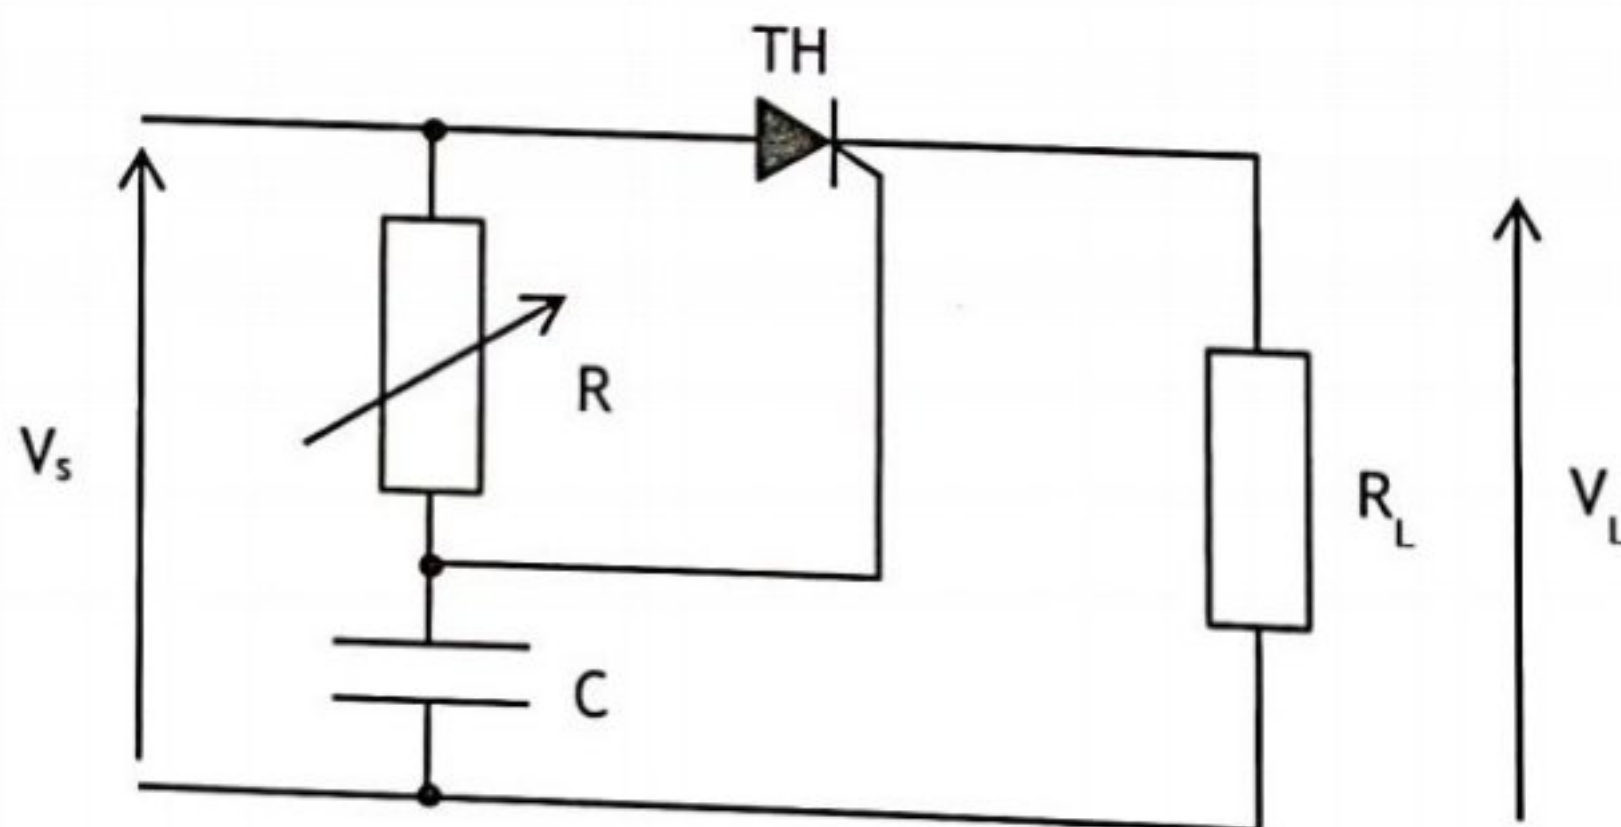

Fig Q9
- (ii) state how the output frequency and voltage are controlled. (2)
9. (a) Sketch and label the forward and reverse current/voltage characteristics for a thyristor showing the effect of increasing gate current. (3)
- (i) holding current I_H ; (1)
- (ii) latching current I_L ; (1)
- (iii) forward breakover voltage V_{BO} ; (1)
- (iv) reverse breakdown voltage V_{BR} . (1)
- (i) turn on; (2)
- (ii) turn off. (1)
- (d) For the half-wave controlled rectifier circuit shown in Fig Q9:
- (i) describe the circuit operation; (3)
- (ii) sketch and label the supply and load voltage waveforms for a trigger angle of 45° . (3)